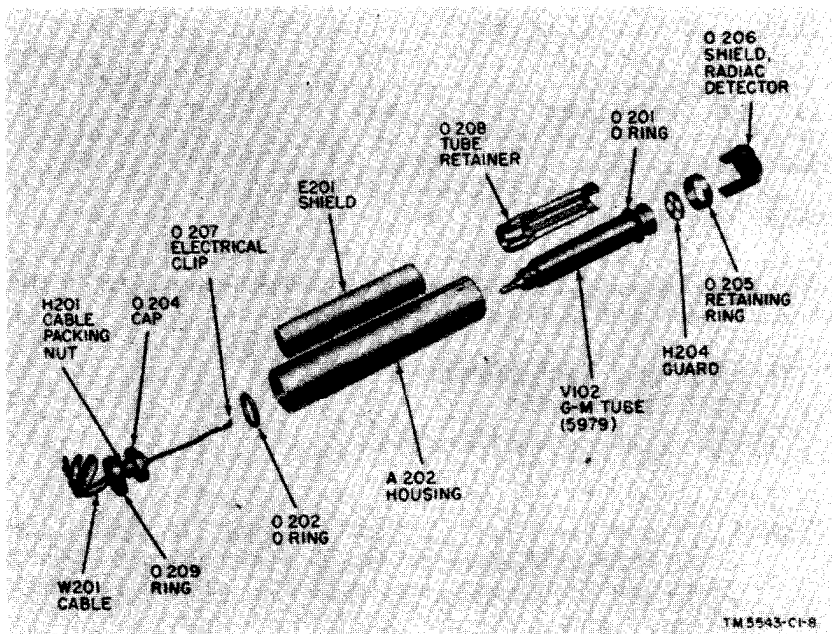

Figure 7-6.1. (Added) *Radiac Detector DT-53D/PDR-27, exploded view.*
Step 6. Unscrew the plug * * * the "O" ring. **In Radiac Set AN/PDR-27E, unscrew the threaded ring (0 209) at the end of the probe, and then remove the cap (0 204) (fig. 7-6.1).**